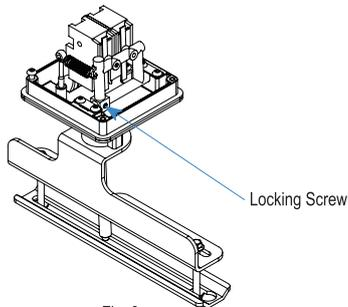

Fig. 3
- iii. Loosen the locking screw (see Fig. 3), adjust the length of the trip rod, make sure it sits at the right position where the trip rod should be exceeding the valve stem but not touching the mounting plate. Tighten the locking crew and fix the trip rod.